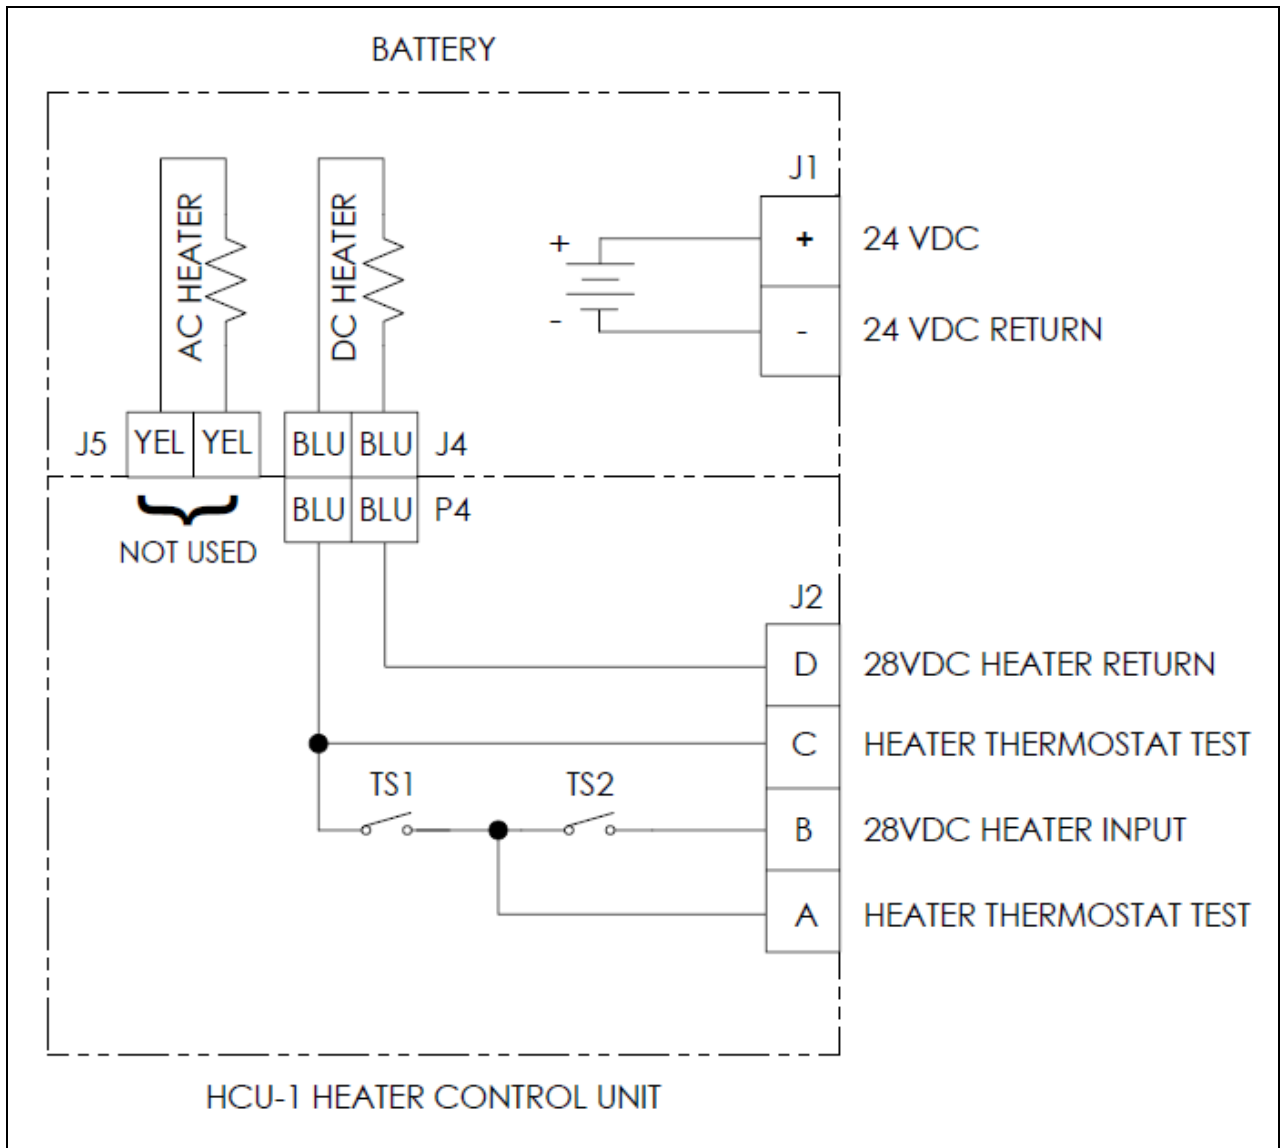

Figure 1. Schematic Diagram for HCU-1
- Refer to Figure 1 for electrical schematic of HCU and Table 1 for a list of test equipment.